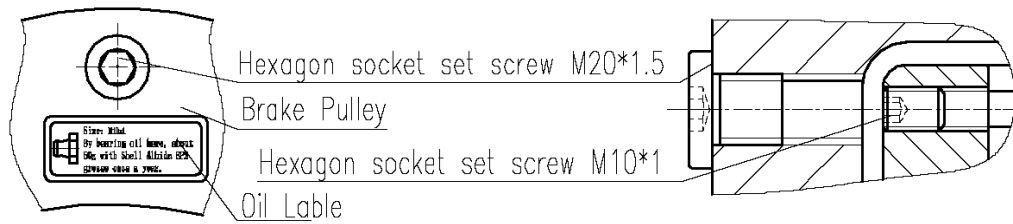

Fig.10.1
1.4.3 For the traction machine with oil label and no grease cup, the oil injection method is as follows. There is a oil label on the front face of the brake pulley, beside the label there is a hexagon socket set screw M20*1.5, remove the screw, turn the traction sheave, look through the hole of the screw while turning, stop turning while watched a hexagon socket set screw M10*1 (not hexagon socket head cap screw), remove the screw M10×1,then oil the bearing with oil gun through the screwed hole, see figure 10.1.